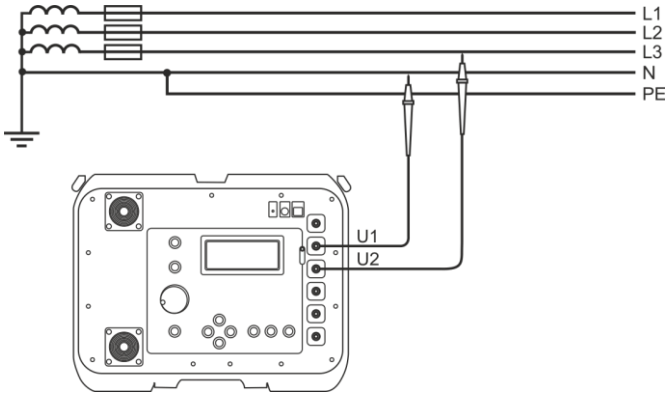

Fig. 11 Alternating voltage measurement
- Connect the test cables to sockets: **U₁** and **U₂** (Fig. 11)